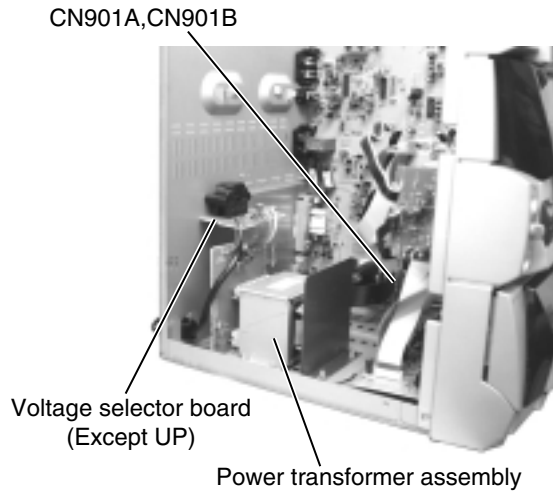

Fig.21
**■Removing the power transformer assembly (See Fig.21 to 23)**